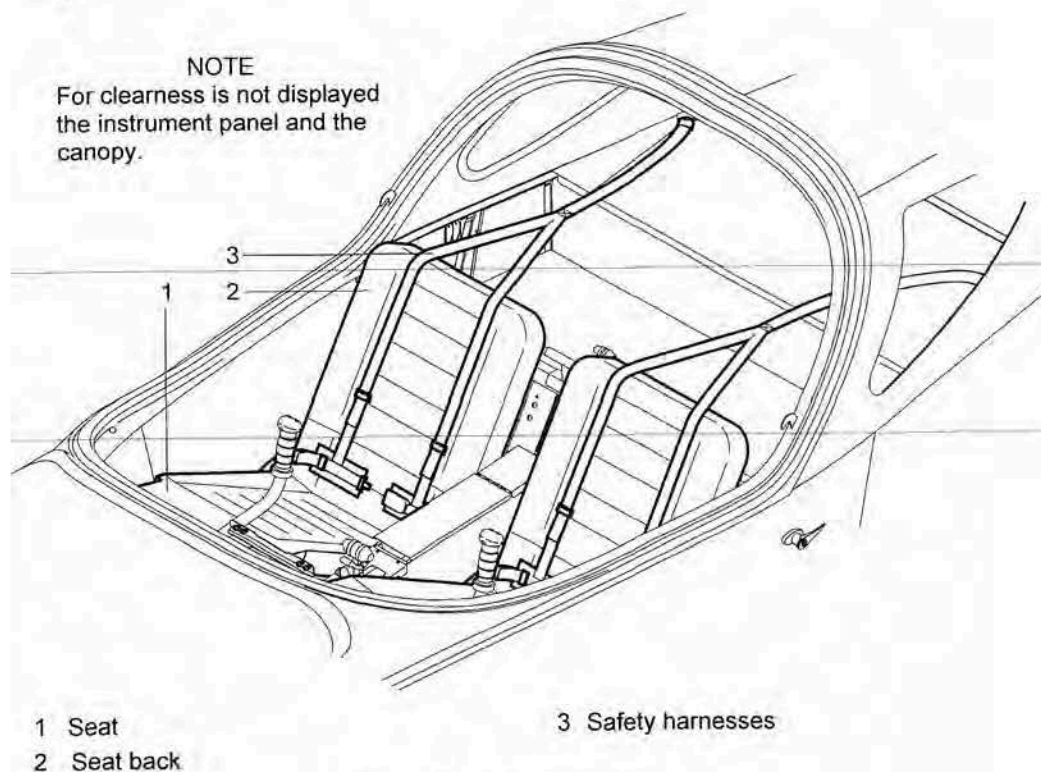

Fig. 7-1: PiperSport cockpit
Seats (1, Fig. 7-1) of the PiperSport airplane are fixed and are equipped with upholstered cushions attached on Velcro. The seat backs (2) are attached to the bulkhead No. 4 per piano hinge.
Seats are equipped with safety harnesses (3, Fig. 7-1). Safety harnesses consist of two lap belts, two shoulder belts and a safety harness lock. Length of the lap belts and the shoulder belts is adjustable.